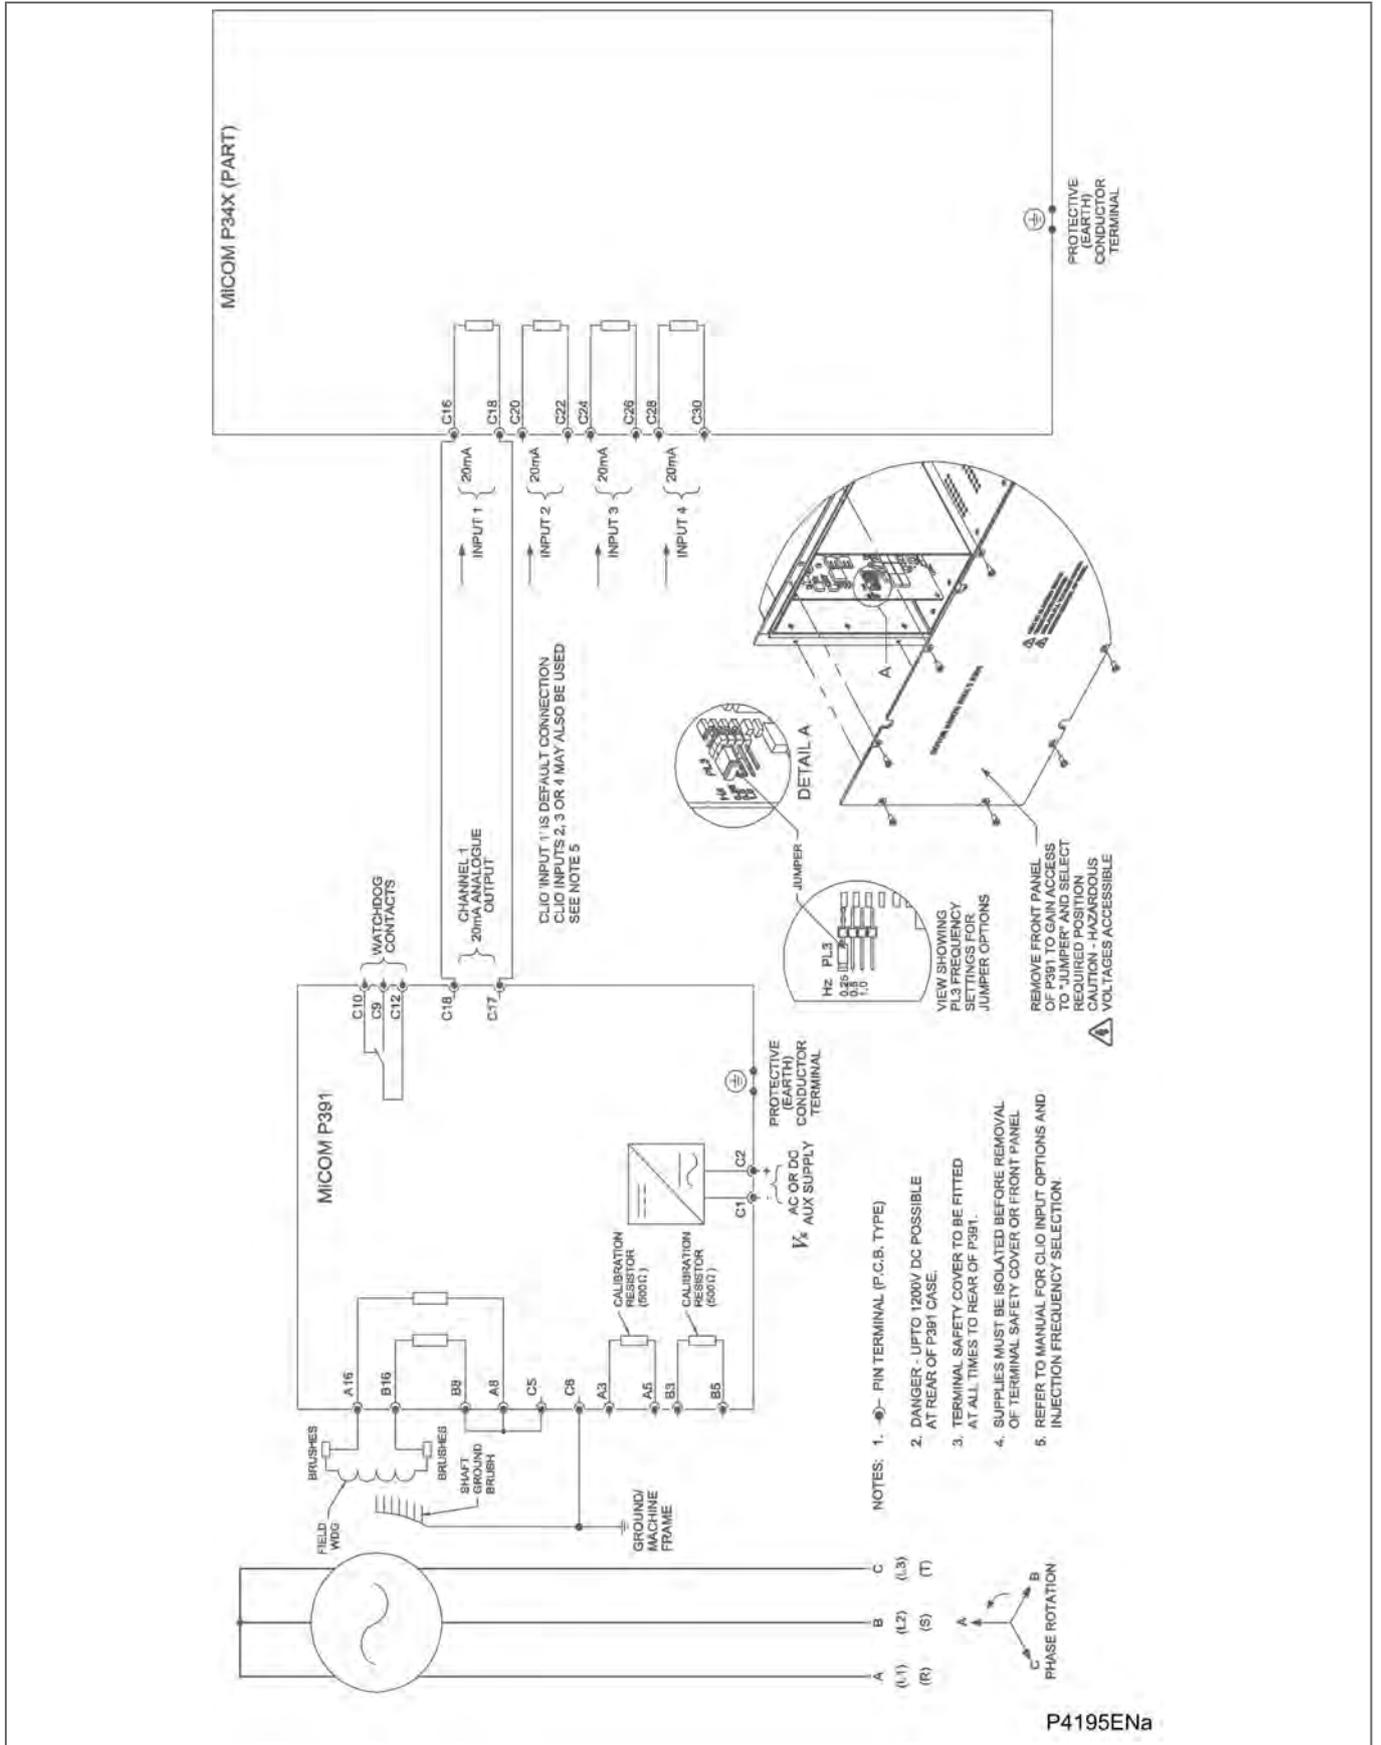

Figure 37 - P391 Rotor Earth Fault double ended field winding connection
- Figure 37 - P391 Rotor Earth Fault double ended field winding connection